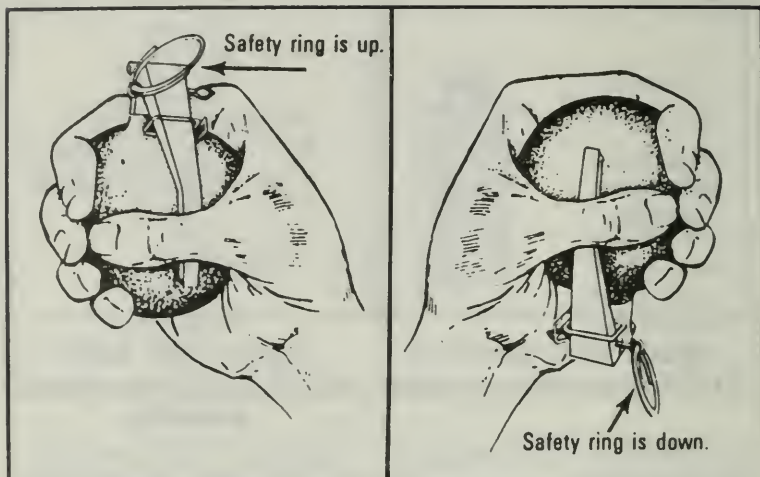

Figure 190. Proper grip of a right hand thrower. **Figure 191. Proper grip of a left hand thrower.**
a. Grip the hand grenade. The safest and easiest way to grip a hand grenade for throwing is to hold it so that the safety lever is held down by the thumb, while keeping the pull ring (and safety clip if present) free and facing the nonthrowing hand (Figures 190 and 191).